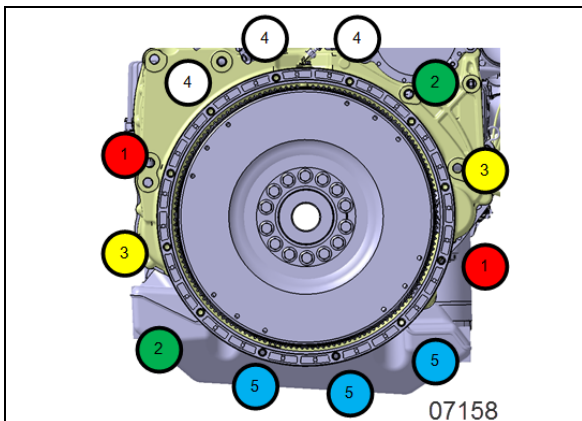

FIGURE 13: CRISS CROSS PATTERN
11. Tighten them gradually in a criss-cross sequence as shown in Figure 13. Apply the following torque value: